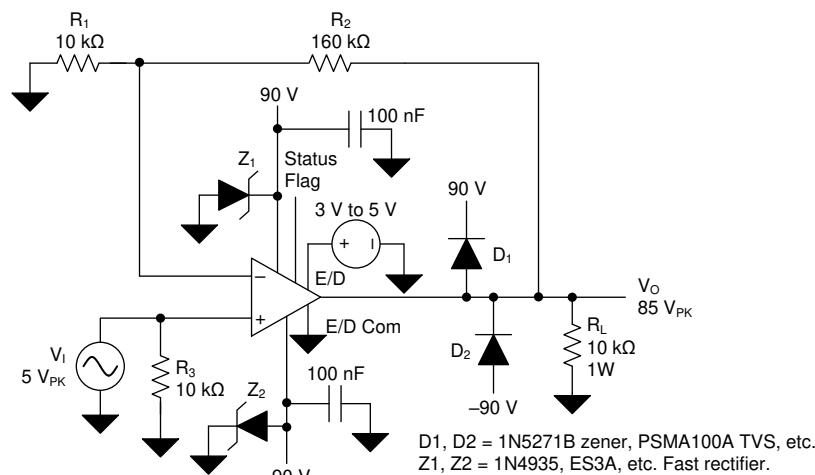

Figure 61. OPA462, High-Voltage Noninverting Amplifier, $A_v = 17$ V/V
The OPA462 high-voltage op amp can be used in commonly applied op amp circuits, but with the added capability of allowing for the use of much higher supply voltages. A very common application of an op amp is that of a noninverting amplifier with a gain of 1 V/V or higher. Figure 61 shows the OPA462 in a noninverting configuration.
Figure 61 shows a noninverting circuit with a moderately high closed-loop gain (A_v) of 17 V/V (24.6 dB). In this example, a 5- V_{PK} ac signal is amplified to 85 V_{PK} across a 10-k Ω load resistor connected to the output. The peak current for this application is 8.5 mA, and is well within the OPA462 output current capability. Higher output current, typically up to 30 mA, may be attained at the expense of the output swing to the supply rails. A ± 90 - V_{DC} power supply is required for this configuration.
A potentially destructive mechanism is the back EMF transient that can be generated when driving an inductive load. D_1 , D_2 , Z_1 and Z_2 in **Figure 61** have been added to the basic OPA462 amplifier circuit to provide protection in the event of back EMF. If the voltage at the OPA462 output attempts to momentarily rise above $V+$, D_1 becomes forward-biased and clamps the voltage between the output and $V+$ pins. This clamp must be sufficient to protect the OPA462 output transistor. If the event causes the $V+$ voltage to increase the power supply bypass capacitor, Z_1 , or both, a Zener diode or a transient voltage suppressor (TVS) can provide a path for the transient current to ground. D_2 and Z_2 provide the same protection in the negative supply circuit.
The OPA462 noninverting amplifier circuit with a closed-loop gain of 17 V/V has a small-signal, –3-dB bandwidth of nearly 800 kHz. However, the large-signal bandwidth is likely of greater importance in a high-output-voltage application. For that mode of operation, the slew rate of the op amp and the peak output swing voltage must be considered in order to determine the maximum large-signal bandwidth. The slew rate (SR) of the OPA462 is typically 6.5 V/ μ s, or 6.5×10^6 V/s. Using the 85- V_{PK} output voltage available from the circuit in **Figure 61**, the maximum large-signal bandwidth is calculated from the slew rate formula. Equation 1, Equation 2 and Equation 3 show the calculation process.